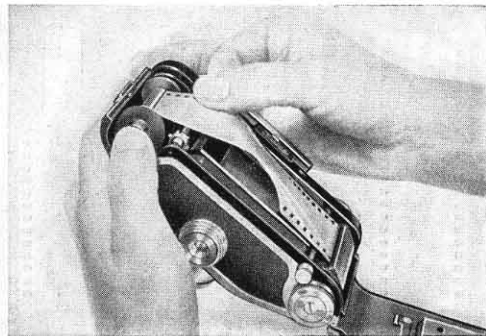

Fig. 32
Attention: By any means don't press the central part of film rewinding knob (38), otherwise the film transport will be stopped! When loading we recommend removing the take-up spool (29) from the camera (Fig. 32) for fastening the film end to it. Take the film end protruding from the cartridge under the holding spring of the take-up spool (29) in the film chamber (30) and push it securely, the emulsion side of the film facing the lens, as shown in Fig. 31. Conduct the film across the film track with the two film guides (32) and replace the take-up spool into the camera. Take care that the fork of the film transport lever (6) engages properly the bar in the hole of the spool.
It is also possible to fasten the film on to the take-up spool without removing the spool from the camera, whereby the holding spring must lie upwards (Fig. 32). When you fasten the film end to the take-up spool (29), place the camera, if possible, on a solid surface and make sure that the camera back is not hanging down.